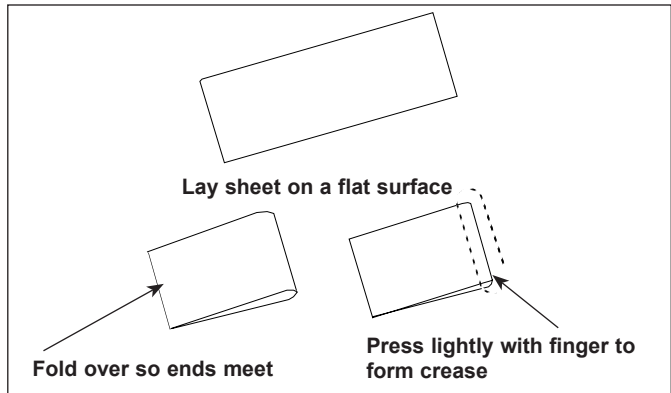

Figure 3. Folding Release Sheet
4. Remove the Release Sheet from the plastic bag and lay it on a clean, flat surface. Fold the sheet exactly in half (Figure 3).
5. Crease the sheet at the fold using only your finger (Figure 3).
NOTE: The Bun Thickness Compression Knobs (Figure 3) must be set to “6 & 6” prior to measuring or removing or reinstalling the Conveyor Belt Chains.